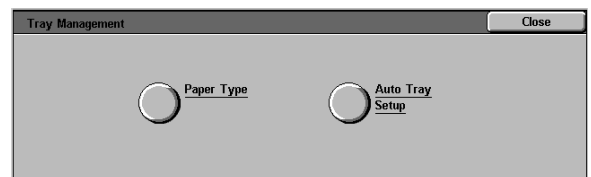

Figure 6: Tray Management screen
- 1 On the Tools screen, touch the **Tray Management** button to display the Tray Management screen, as illustrated in Figure 6.